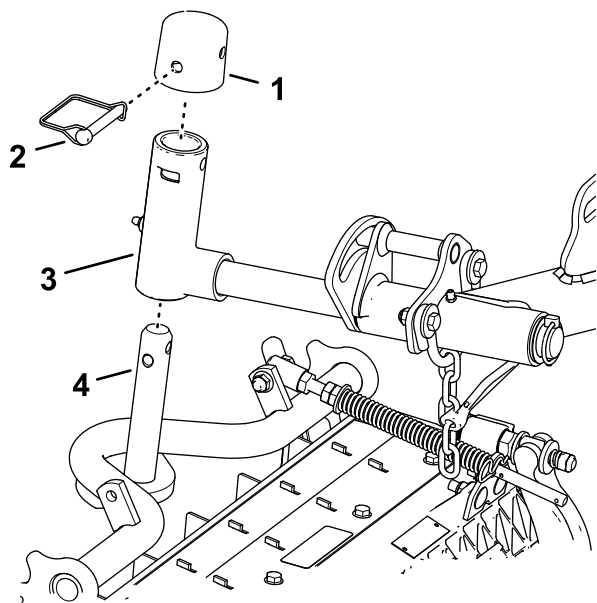

Figure 24
- Slide a cutting unit under the lift arm (Figure 24).